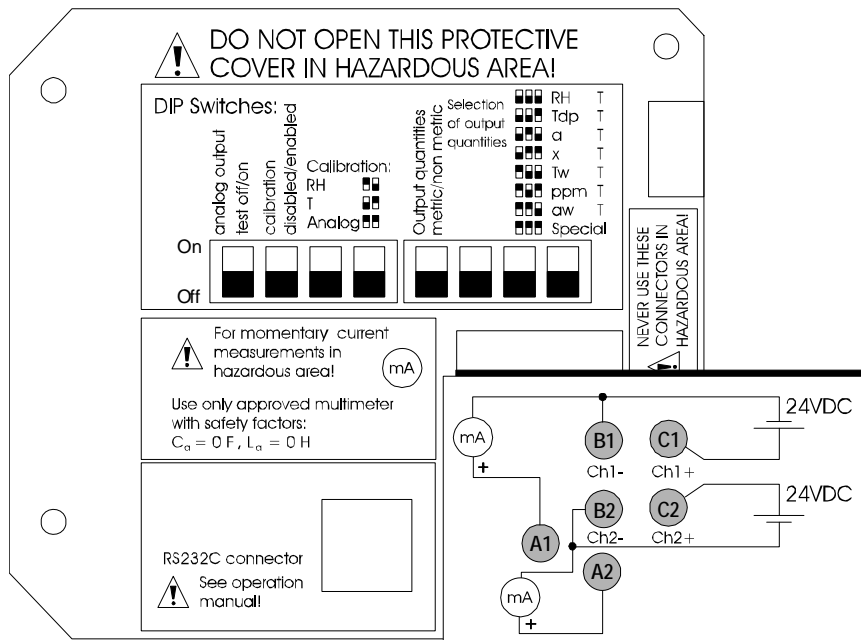

Figure 24 Connecting Power Supply and Multimeter for Calibration
1. Connect a power supply (12 ... 24 VDC, with a serial port the minimum supply voltage is 15 VDC) to the terminals B1 (-) and C1 (+) (Ch 1) with banana plugs, see Figure 24 on page 65.